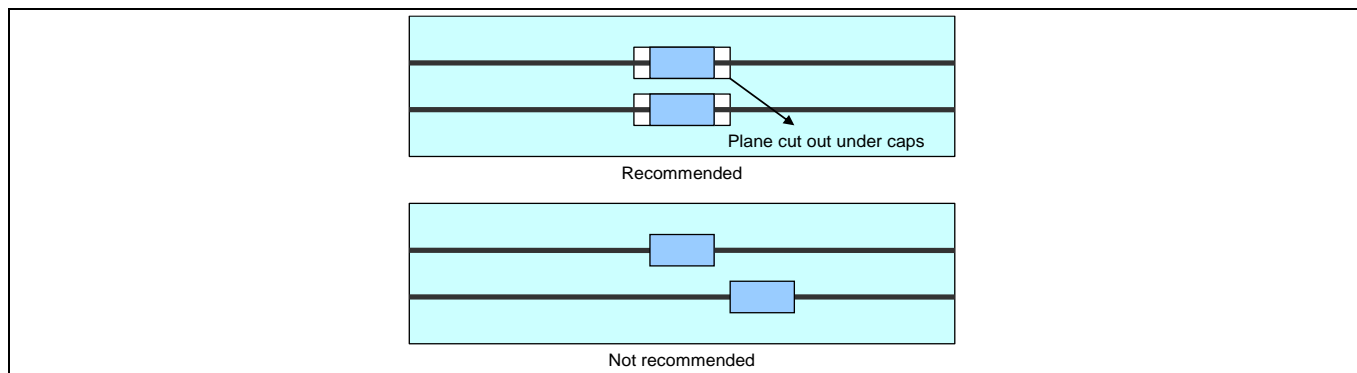
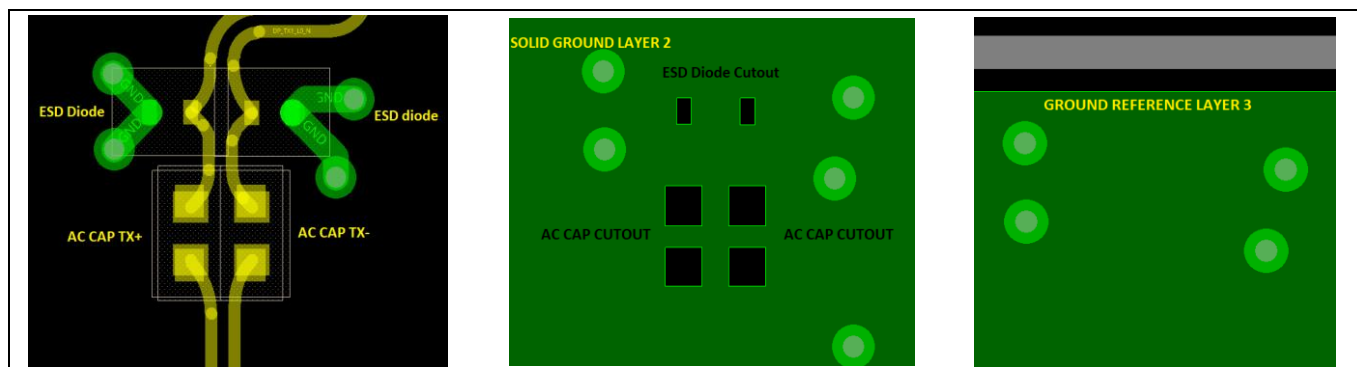

Figure 16 SuperSpeed TX AC coupling caps layout
Figure 17 AC capacitor /ESD cutout
- AC coupling capacitors should have a cut-out in the shape of these capacitors on the immediate solid GND layer to reduce reflection on the super speed signals. It is mandatory to provide the ground reference on layer, which is immediate to solid GND layer. Figure 16 shows the proper layout of the decoupling caps; Figure 17 shows the AC capacitor/ESD cutout. AC caps should be placed near to USB connector only for Host and device implementation which helps to avoid the cable noise reaching to FX3 device. AC caps should be placed near to FX3 device only if FX3 connected to HUB or other emdedded controller.